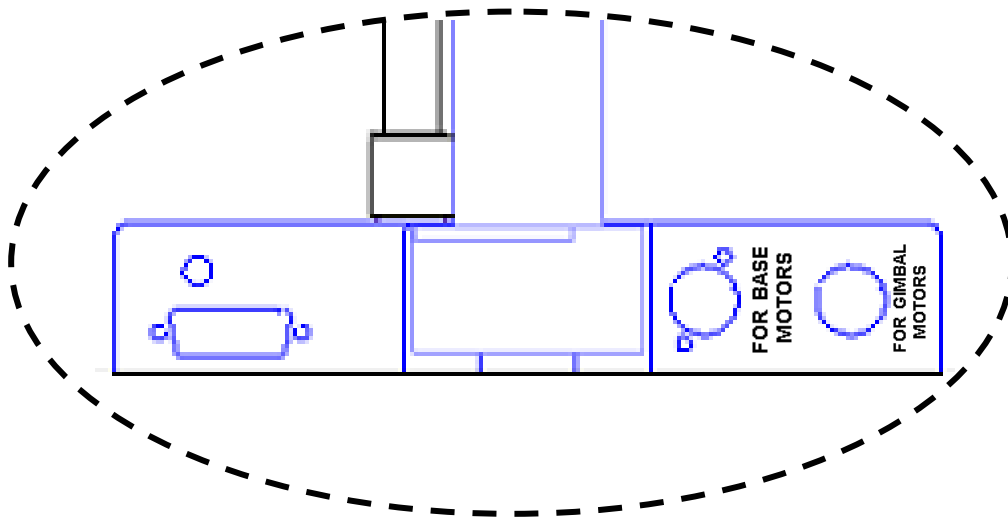

Figure 13:Rear view, PHANTOM Base Haptic arm
- Base Motor Power Cable 8-Pin (**Part #: 02550**): This cable has two 8-Pin Din connectors. One of the 8-Pin connectors is threaded. This threaded connector connects to the 8-Pin connector on the base of the Haptic Arm (Figure 13). The non-threaded 8-Pin connector connects to the 8-Pin connector on the Amp Box.